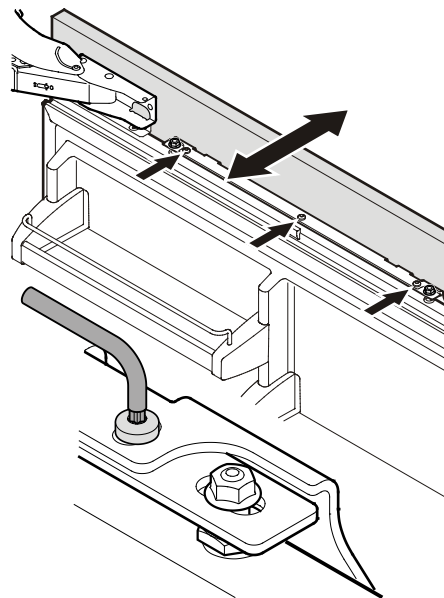

Figure 32
10. Loosen the three screws on the top of the attachment bracket, align the panel as shown in **Figure 32** and tighten the screws. This can also be done with the lower attachment bracket.